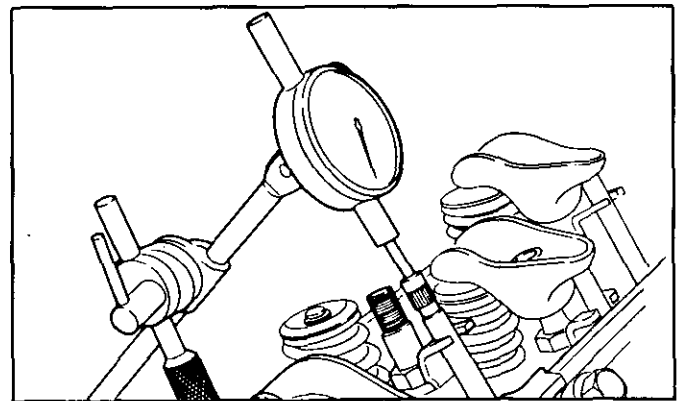

Figure 42 Measuring Cam Lobe Lift
3. Attach a dial indicator with a ball socket attachment and measure the cam lobe lift (Figure 42). If any one cam lobe lift is out of specification, replace the camshaft.